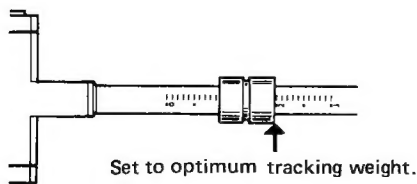

Fig. 5
- 4) Return the tonearm to the arm rest. Adjust the tracking force weight to the desired weight. See Fig. 5